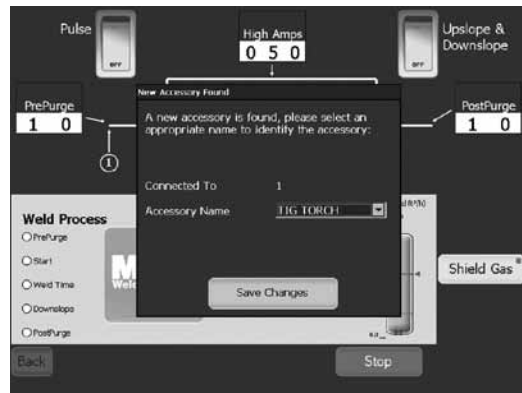

Fig. 1 — Accessory Window
7. An accessory window will appear on the screen of the M200 power supply. Select **TIG TORCH** from the dropdown list. Fig. 1.